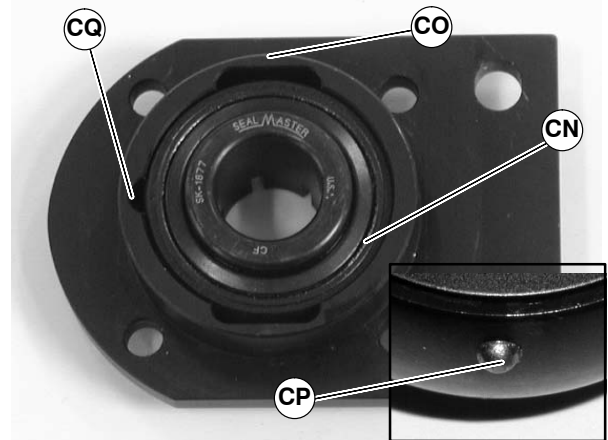

Figure 87
2. Insert bearing (CN of Figure 87) into housing slot (CO). Locate anti-rotation nub (CP) to align with slot (CQ), and twist bearing into housing.